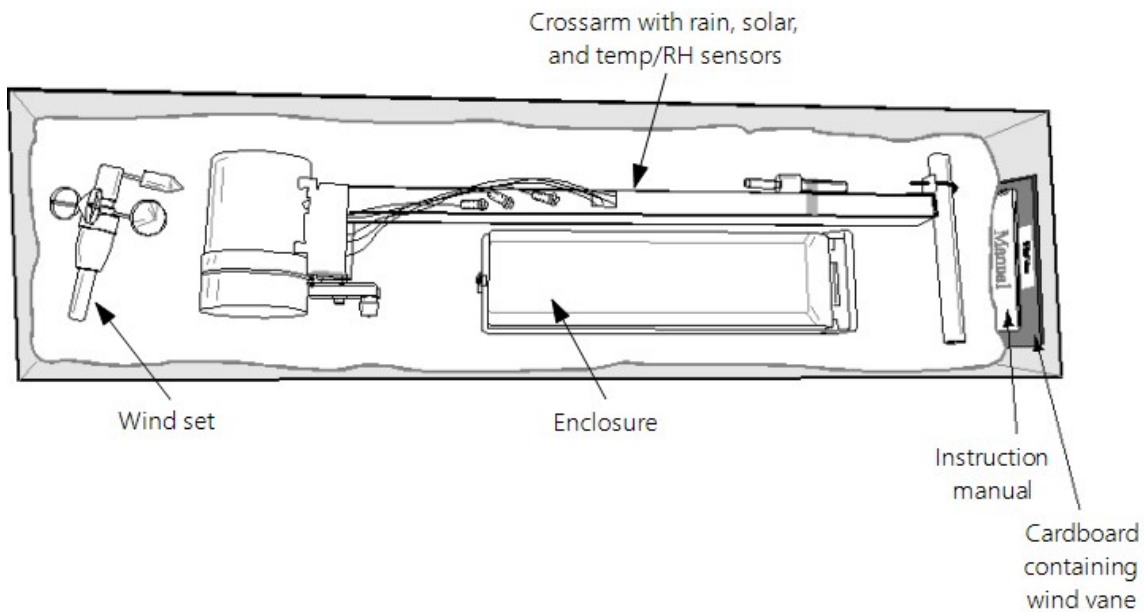
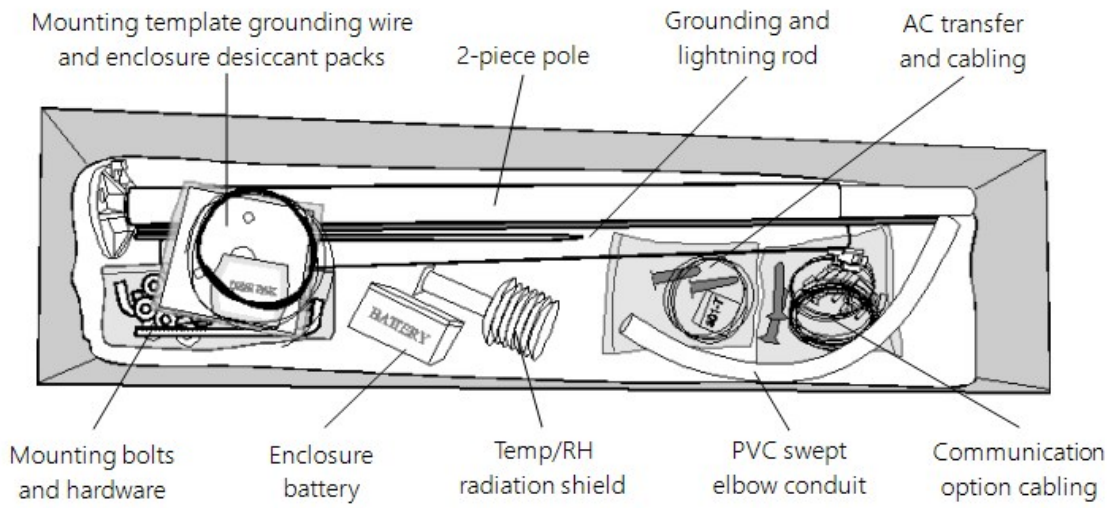

FIGURE 3-3. WS-PRO2 with the Met One 034B-ETM Wind Sensor, top layer
FIGURE 3-4. WS-PRO2, bottom layer
7. Check contents against invoice and shipping checklist (FIGURE 3-3 (p. 4), FIGURE 3-4 (p. 5)) and contact Campbell Scientific immediately about any shortages.